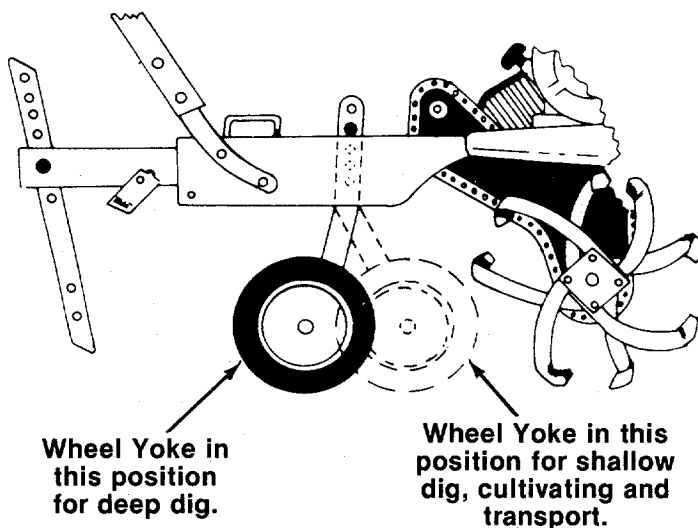

FIGURE 16.
1. **Wheel Yoke Adjustment:** Place wheel yoke so that the wheels are forward (nearest point between wheels and tines) for shallow tilling, cultivating and transport. This will increase the forward speed. See figure 16. Turn yoke around (farthest point between wheels and tines) for deep tilling. Forward speed will decrease. See figure 16.